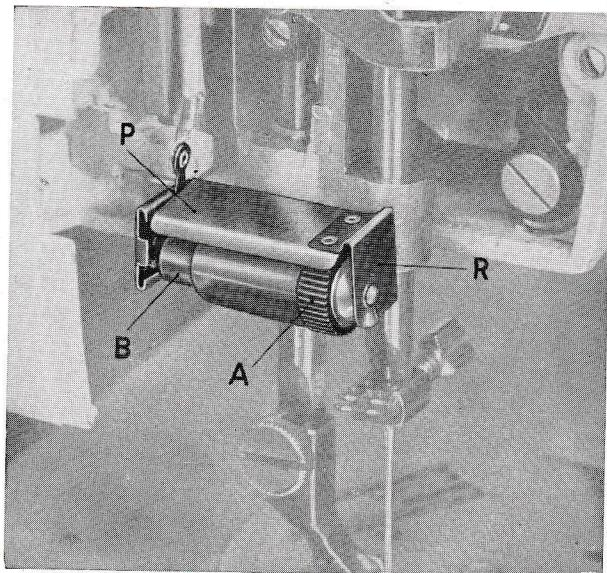

Fig. 35
- b) Remove the old light bulb B (Fig. 35) by pulling it, together with its shade, downwards and out of the lamp holder P. If necessary, gently push the end section R of the lamp holder outwards in order to facilitate the removal of the light bulb.